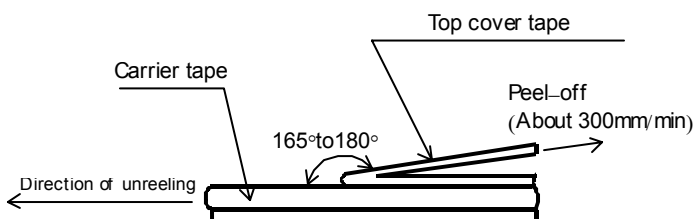

Figure-3
- 5). The peel strength of the top cover tape shall be within 0.1N to 0.5N on the test method as shown in the following Figure-3.